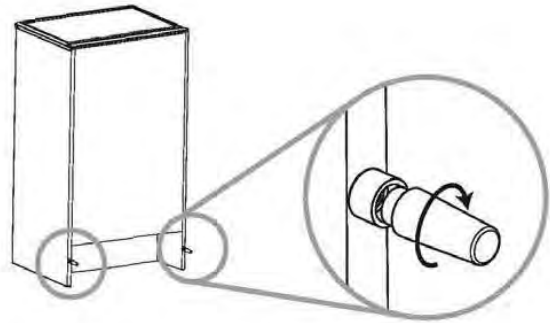

Fig. 4
- Screw in the two spacers (provided) at the back of the appliance before operation. See fig. 4